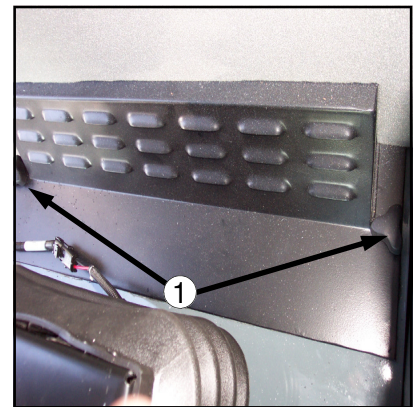

FIG 121-2
To remove, clean, or replace the filters in the cab, undo the thumb screws on the cover (figure 121-2, item 1) and carefully remove the filters. Wipe the cover clean with a damp cloth and allow to dry before replacing.